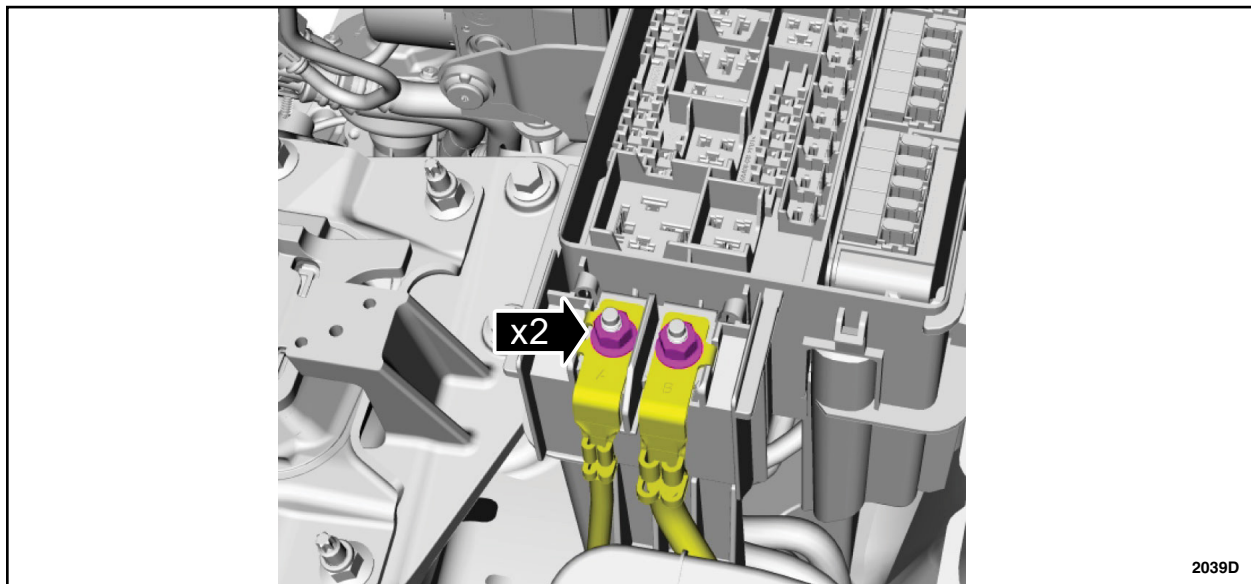

FIGURE 4
3. Remove the nuts and power feed cables from the BJB studs and position aside both power feed cables. See Figure 4.